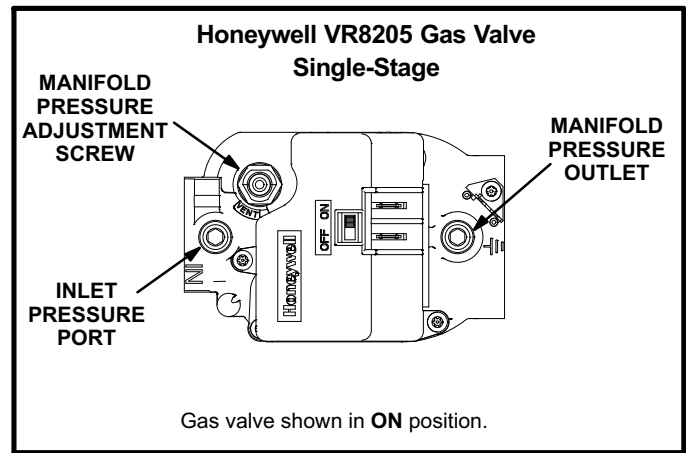

FIGURE 15
The gas valve is adjustable for both low fire and high fire. Figures 15 and 16 show gas valve components. Table 6 shows factory gas valve regulation pressures.
Gas Valve Operation (figure 15 and 16)
- 5- Move gas valve switch to **OFF**. See figure 15 or 16.
- 6- Wait five (5) minutes to clear out any gas. If you then smell gas, **STOP!** Immediately call your gas supplier from a neighbor's phone. Follow the gas supplier's instructions. If you do not smell gas, go to the next step.
- 7- Move gas valve switch to **ON**. See figure 15 or 16.
After line pressure has been checked and adjusted, check manifold pressure. Move test gauge to the outlet pressure tap located on unit gas valve GV1. See figure 15 or 16 for location of pressure tap on the gas valve.
The manifold pressure is factory set and should not require adjustment. See table 6. If manifold pressure is incorrect and no other source of improper manifold pressure can be found, the valve must be replaced. See figure 15 or 16 for location of gas valve (manifold pressure) adjustment screw.